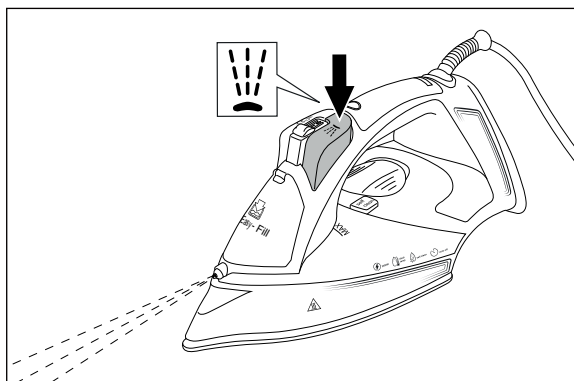

Fig. 8
- 3) Press the button for the spray function  **5** (see Fig. 8).